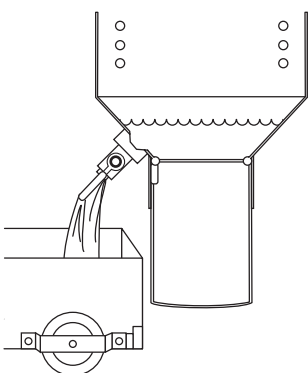

Figure 6
7. Open drain valve on fryer and allow shortening to drain into filter machine until shortening flow through drain valve stops (Figure 6).